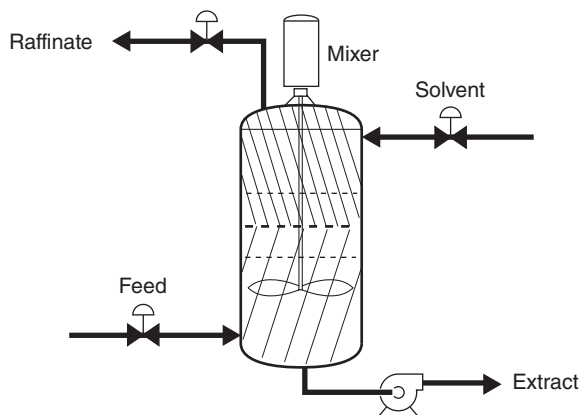

Figure 16.1
There are basically three steps in the liquid-liquid extraction process: (1) contact the solvent with the feed solution; (2) separate the raffinate from the extract; (3) separate the solvent and the solute. Step 3, recovery of the solvent and solute, is left to be done by some other process such as distillation. In liquid-liquid extraction, the feed is the original solution. The **feed** solution, containing the **solute** (the material that will be dissolved), is fed to the lower portion of the extraction column (Figure 16.1). The **solvent** (the material that dissolves the solute) is added near the top. Because of density differences, the lighter feed solution tends to rise to the top while the heavier solvent sinks to the bottom. As the two streams mix, the solvent